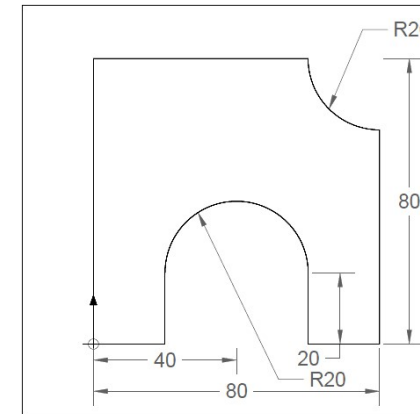

Figure 2
- (b) Write a part program to manufacture the product as shown in Figure 2 below in a CNC machine with spindle speed 1500 RPM and feed rate 1mm/Revolution. Consider all the dimensions in mm.